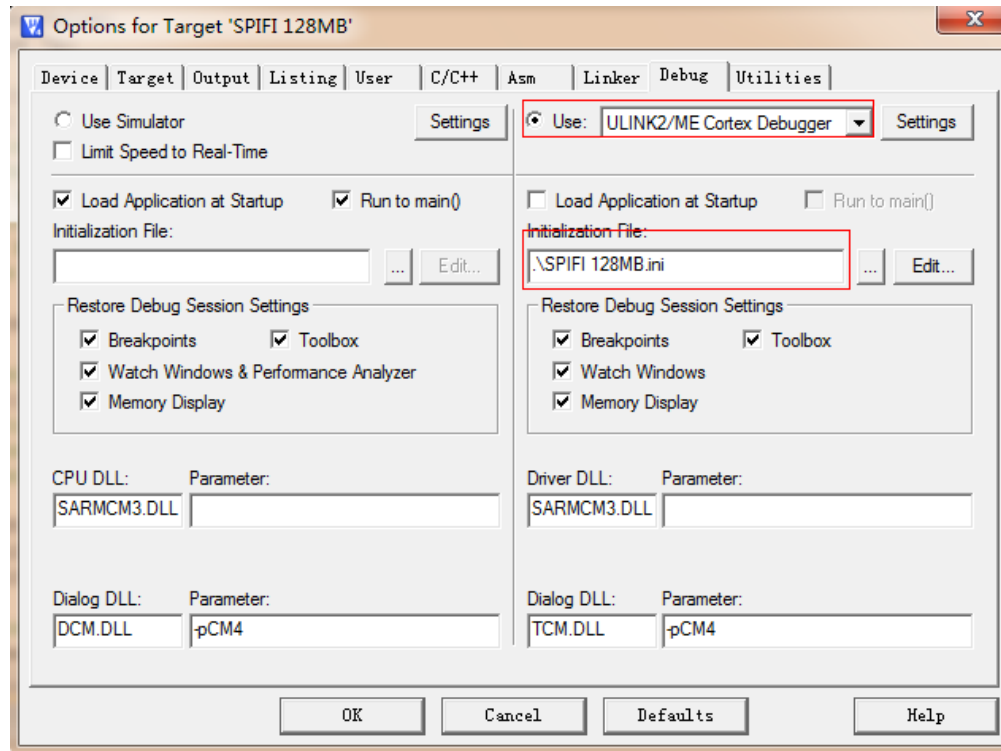

Figure 3-7
(1) After opening project, open setting dialog box and select Debug. Refer to figure 3-7: